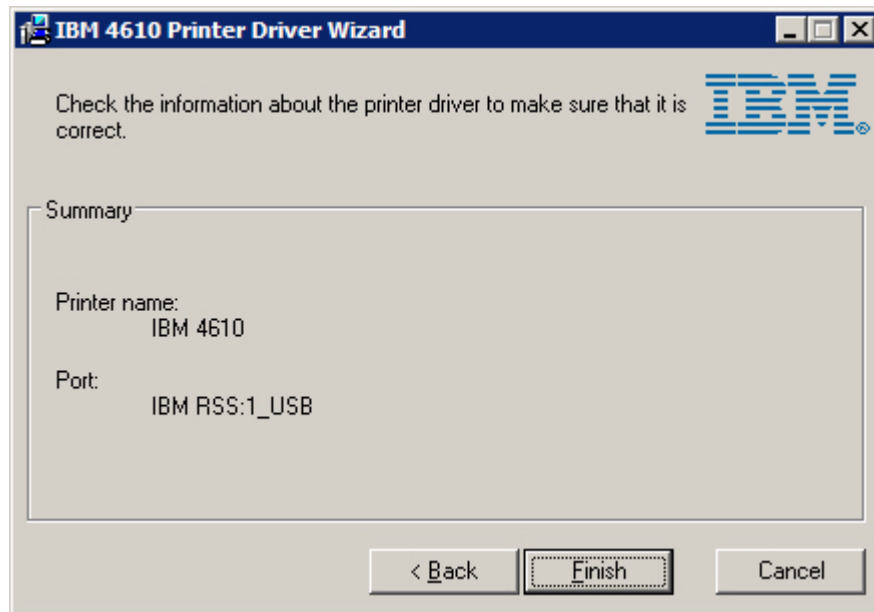

Figure 11. Printer name and port verification
10. Verify that the printer name and port are correct (see Figure 11).